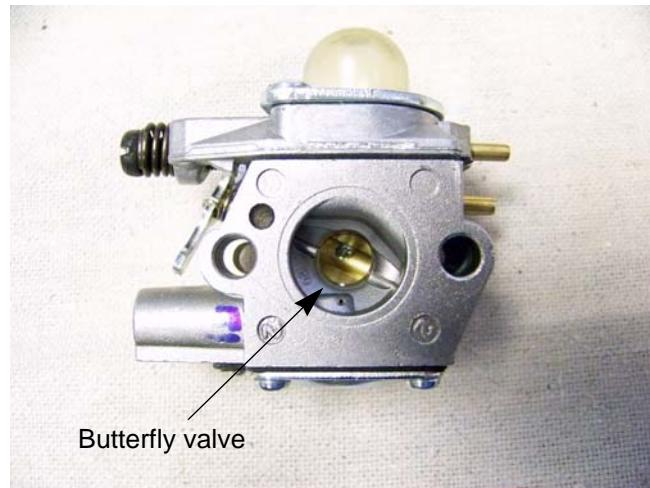

Figure 5.14
7. Inspect the butterfly valve assemble for debris and freedom of movement. See Figure 5.14.